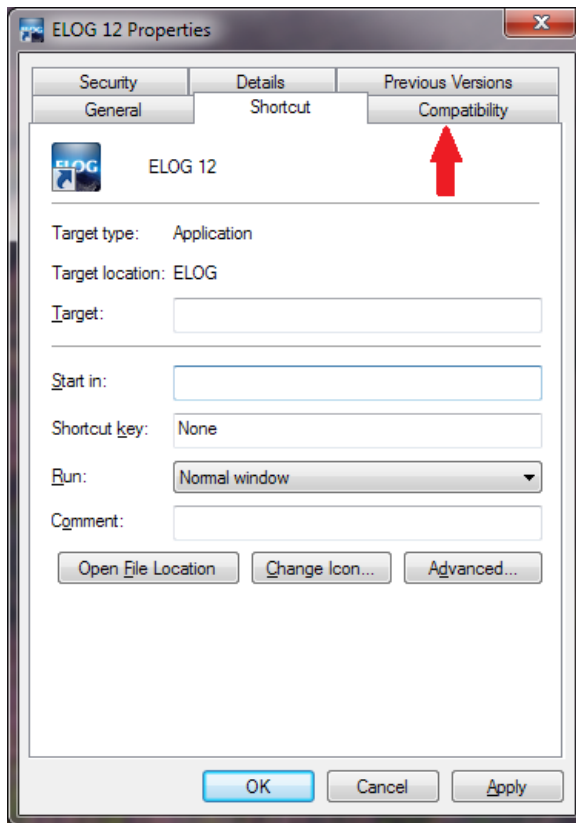

Figure 1
- 3) Click the **Compatibility** tab at the top of the window. (See Figure 1)